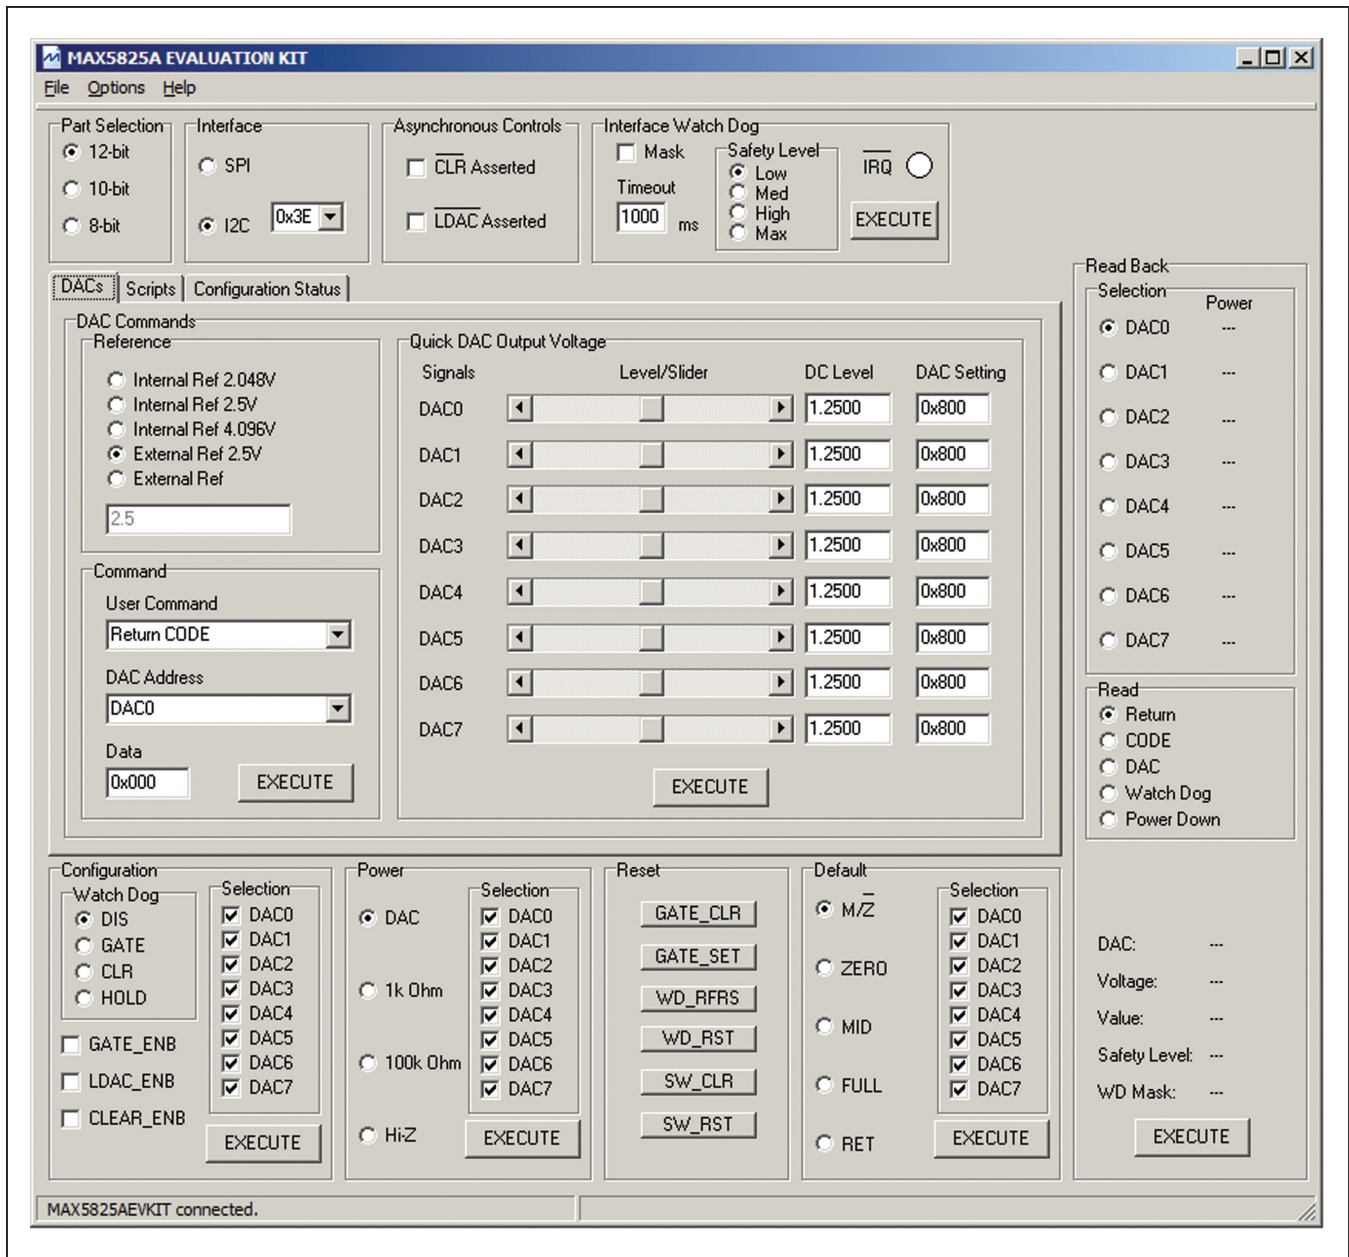
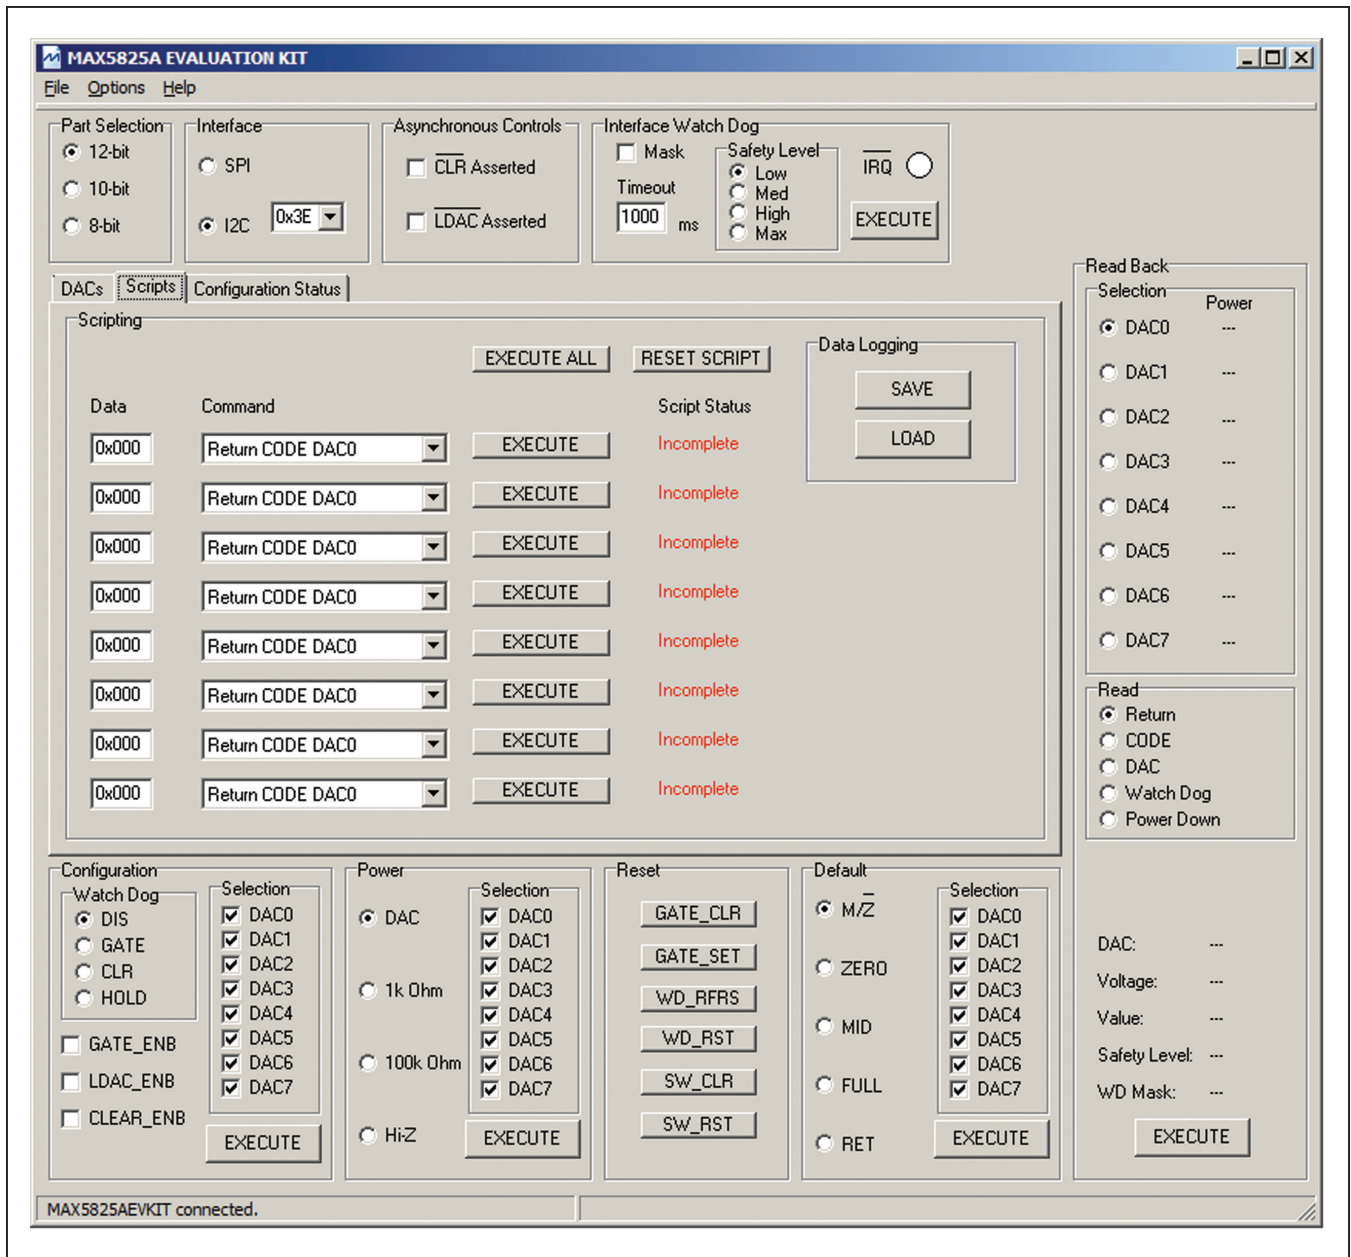
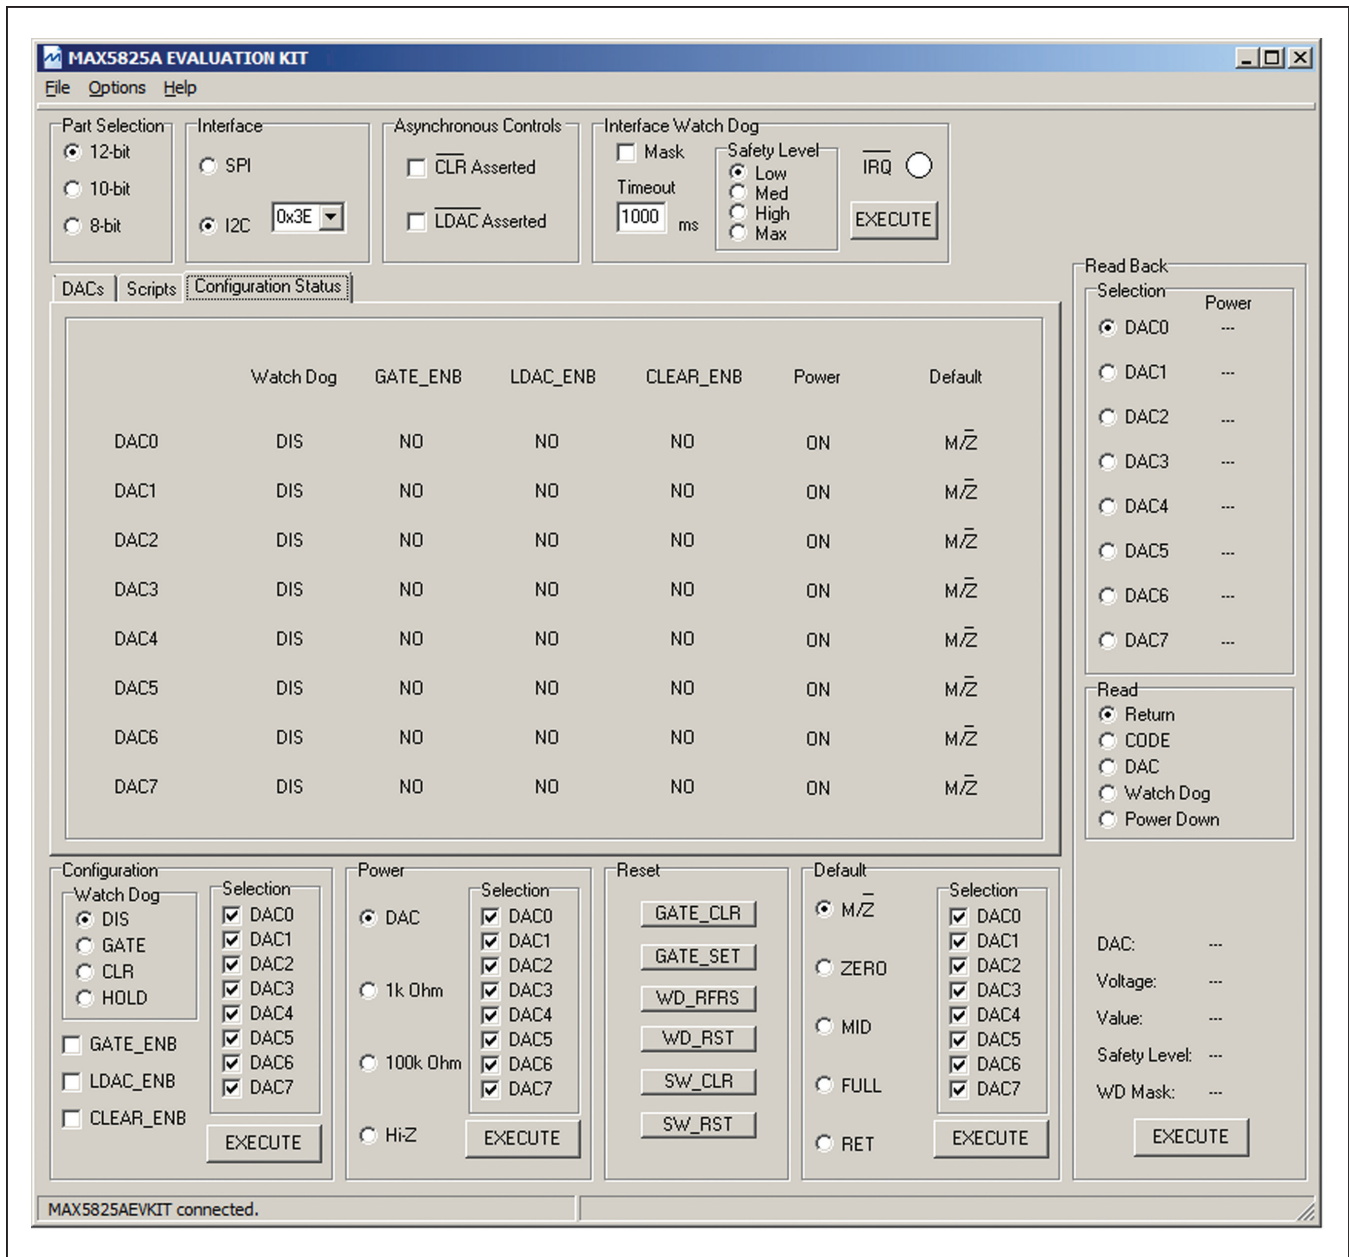

Figure 2. MAX5825A EV Kit Software Main Window (DACs Tab)
Figure 3. MAX5825A EV Kit Software Main Window (Scripts Tab)
Figure 4. MAX5825A EV Kit Software Main Window (Configuration Status Tab)
- 6) Start the EV kit software by opening its icon in the **Start | Programs** menu. The EV kit software main window appears, as shown in Figure 2.
The MAX5825A EV kit software evaluates the MAX5825A I²C interface family of 12-/10-/8-bit DACs. The main software window has three tabs: **DACs**, **Scripts**, and **Configuration Status**. Within the **DACs** tab sheet (Figure 2), the user can set the reference and the DAC outputs. The **Scripts** tab sheet (Figure 3) allows the user to send a sequence of write commands to the eight DACs and load and save the write sequence. The **Configuration Status** tab sheet (Figure 4) displays the configuration settings for each DAC. In addition, the software also allows the user to adjust the configuration, power, reset, and default settings.
Within the **DACs** tab sheet shown Figure 2, the user can set the output of the DACs with two options. The first option is the **Quick DAC Output Voltage** group box that allows the user to write and load the CODE to all DACs. Set the desired output for each DAC using the corresponding slider and press the **EXECUTE** button. The second option is to write the return CODE, write the CODE, load the CODE, or write and load the CODE to the desired DAC using the drop-down lists and edit box within the **Command** group box. Press the **EXECUTE** button once all the settings are appropriately configured.
Within the **Scripts** tab sheet shown in Figure 3, enter the desired **Data** on the left and choose the appropriate **Command** from the drop-down list in the **Scripting** group box. Pressing the **EXECUTE** button writes to the CODE and/or DAC registers and the **Script Status** changes from **Incomplete** to **Complete**. Refer to the MAX5825A IC data sheet for a list of possible commands. If a sequence of commands needs to be performed, adjust all **Data** edit boxes and **Commands** drop-down list accordingly, and press the **EXECUTE ALL** button. To reset the **Script Status** to **Incomplete**, press the **RESET SCRIPT** button.
The **Configuration Status** tab sheet shown in Figure 4 displays the current status of the configuration, power, and default settings for each DAC.